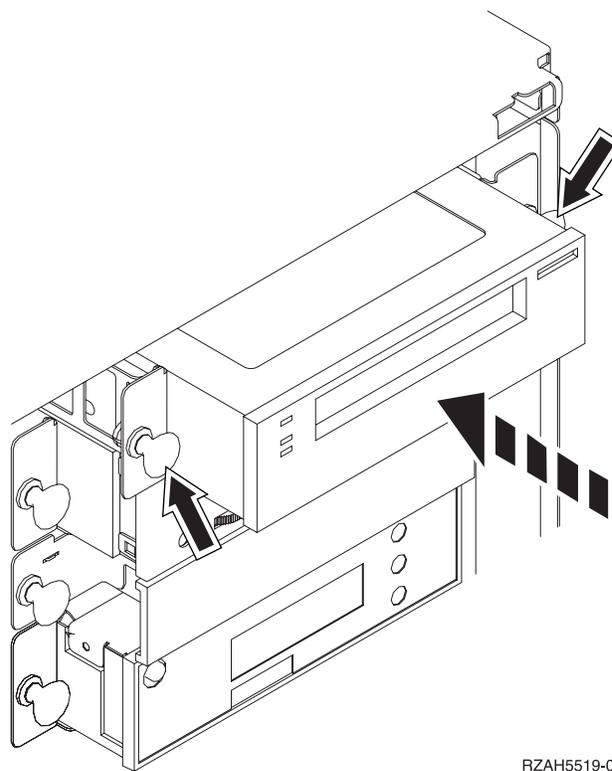

Figure 5. Installing the removable media
- ___ 10. Align the device and slide it into the front of the system unit (Figure 5) until the device is flush against the frame of your system unit.